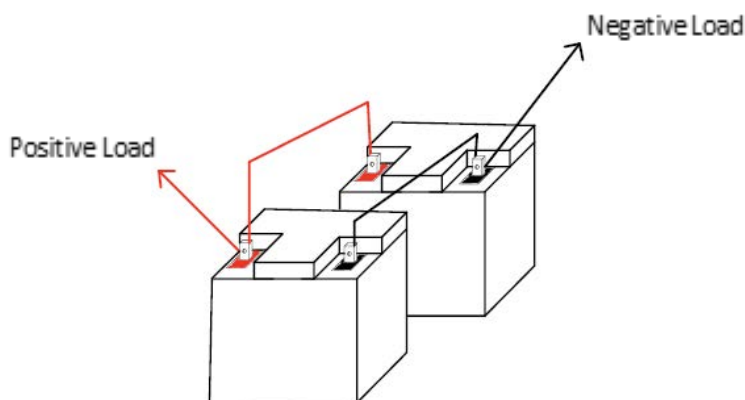

Figure 3: Two 5012 Batteries connected in Parallel to create a 12V 100Ah Battery Bank
Multiple BB5012 batteries may be connected in parallel to increase the capacity and current of the system. When batteries are connected in parallel, the voltage of the system does not change, but the capacity and current limits are additive. For example, two BB5012 batteries connected in parallel (shown in Fig. 3) create a 12V 100Ah bank that can deliver 120A continuously and 200A for 30 seconds.
7. Repeat steps 3-6 for additional batteries in the system. An example of a finished connection can be found below in Fig. 3